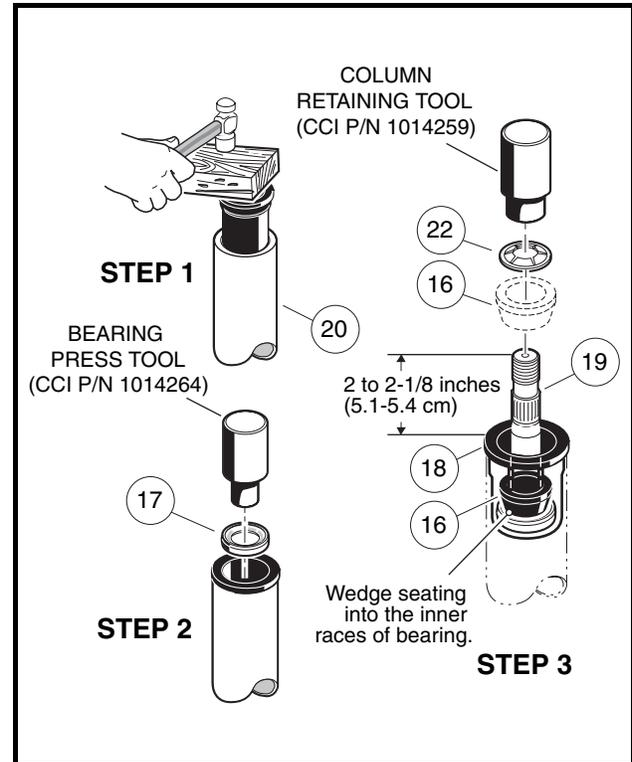

Figure 7-6 Steering Shaft – Top End
5. Turn the assembly over and place the shaft (19) on a bench. Install the wedge (16) and retaining ring (22) onto the top of the shaft. Be sure the prongs on the retaining ring face up and away from the wedge. Use a steering column retaining ring tool (CCI P/N 1014259) to seat the retaining ring to the proper depth. Support end of tube while pressing. If you do not have the recommended tool, use the same tube as was used in step 2 to press the retaining ring onto the top of the shaft. The retaining ring should be pressed onto the shaft until 2 to 2-1/8 inches (5.1-5.4 cm) of the shaft extends from the top of the bearing seat in the steering tube (**Figure 7-6, Page 7-6**).